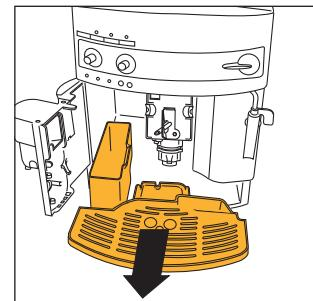

Fig.16
**NOTE 7:** the machine counts the number of cups of coffee made. Each 14 single cups (or 7 double cups), the  light switches on steady (chap. 12 point 3), warning the user that the grounds container is full and must be emptied and cleaned. Until the grounds container has been cleaned, the light will remain on and the machine cannot deliver coffee. To clean the container, open the service door on the front (pulling the handle, Fig. 15), the  light flashes (see para 12 point 9); remove the drip tray (Fig. 16), empty and clean. Empty and carefully clean the grounds container, making sure to remove all the residues that may be deposited on the bottom. Also dry the any drops of condensate that may have formed inside the machine under the drip tray. **IMPORTANT:** when removing the drip tray, the grounds container MUST be emptied, even if it is not completely full. If this is not done, when next making coffee the grounds container may fill over the maximum level and block the machine with lumps of coffee grounds.
- remove the drip tray and the grounds container (Fig. 16) and clean them;